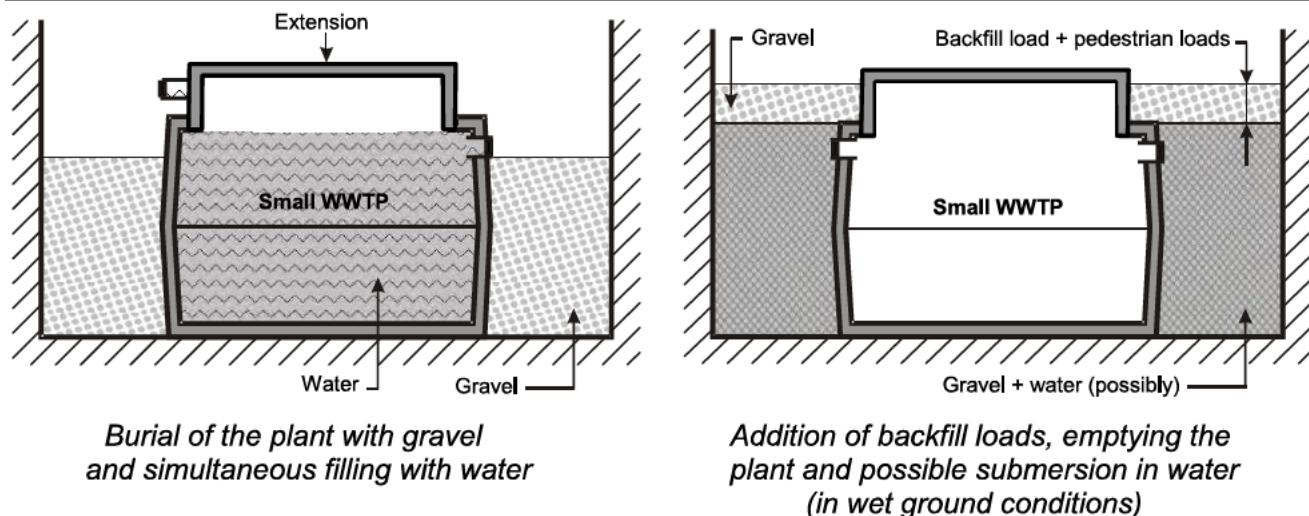

Figure 3. Steps 3 to 5 of the Pit Test
- Possible filling of the pit with water to the top level of the plant, if it is tested in wet ground conditions (figure 3).